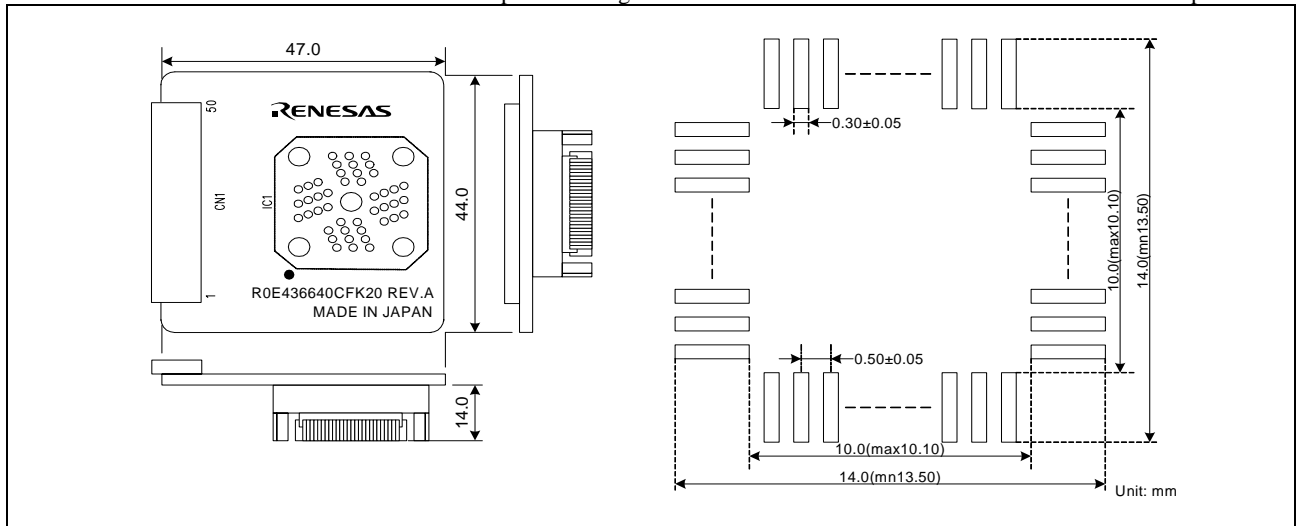

Figure 4 External dimensions and a recommended foot pattern of the R0E436640CFK20
6. External Dimensions and a Recommended Foot Pattern (See Figure 4)
Note that the dimensions of the recommended foot pattern in Figure 4 are somewhat different from those of the actual foot pattern.